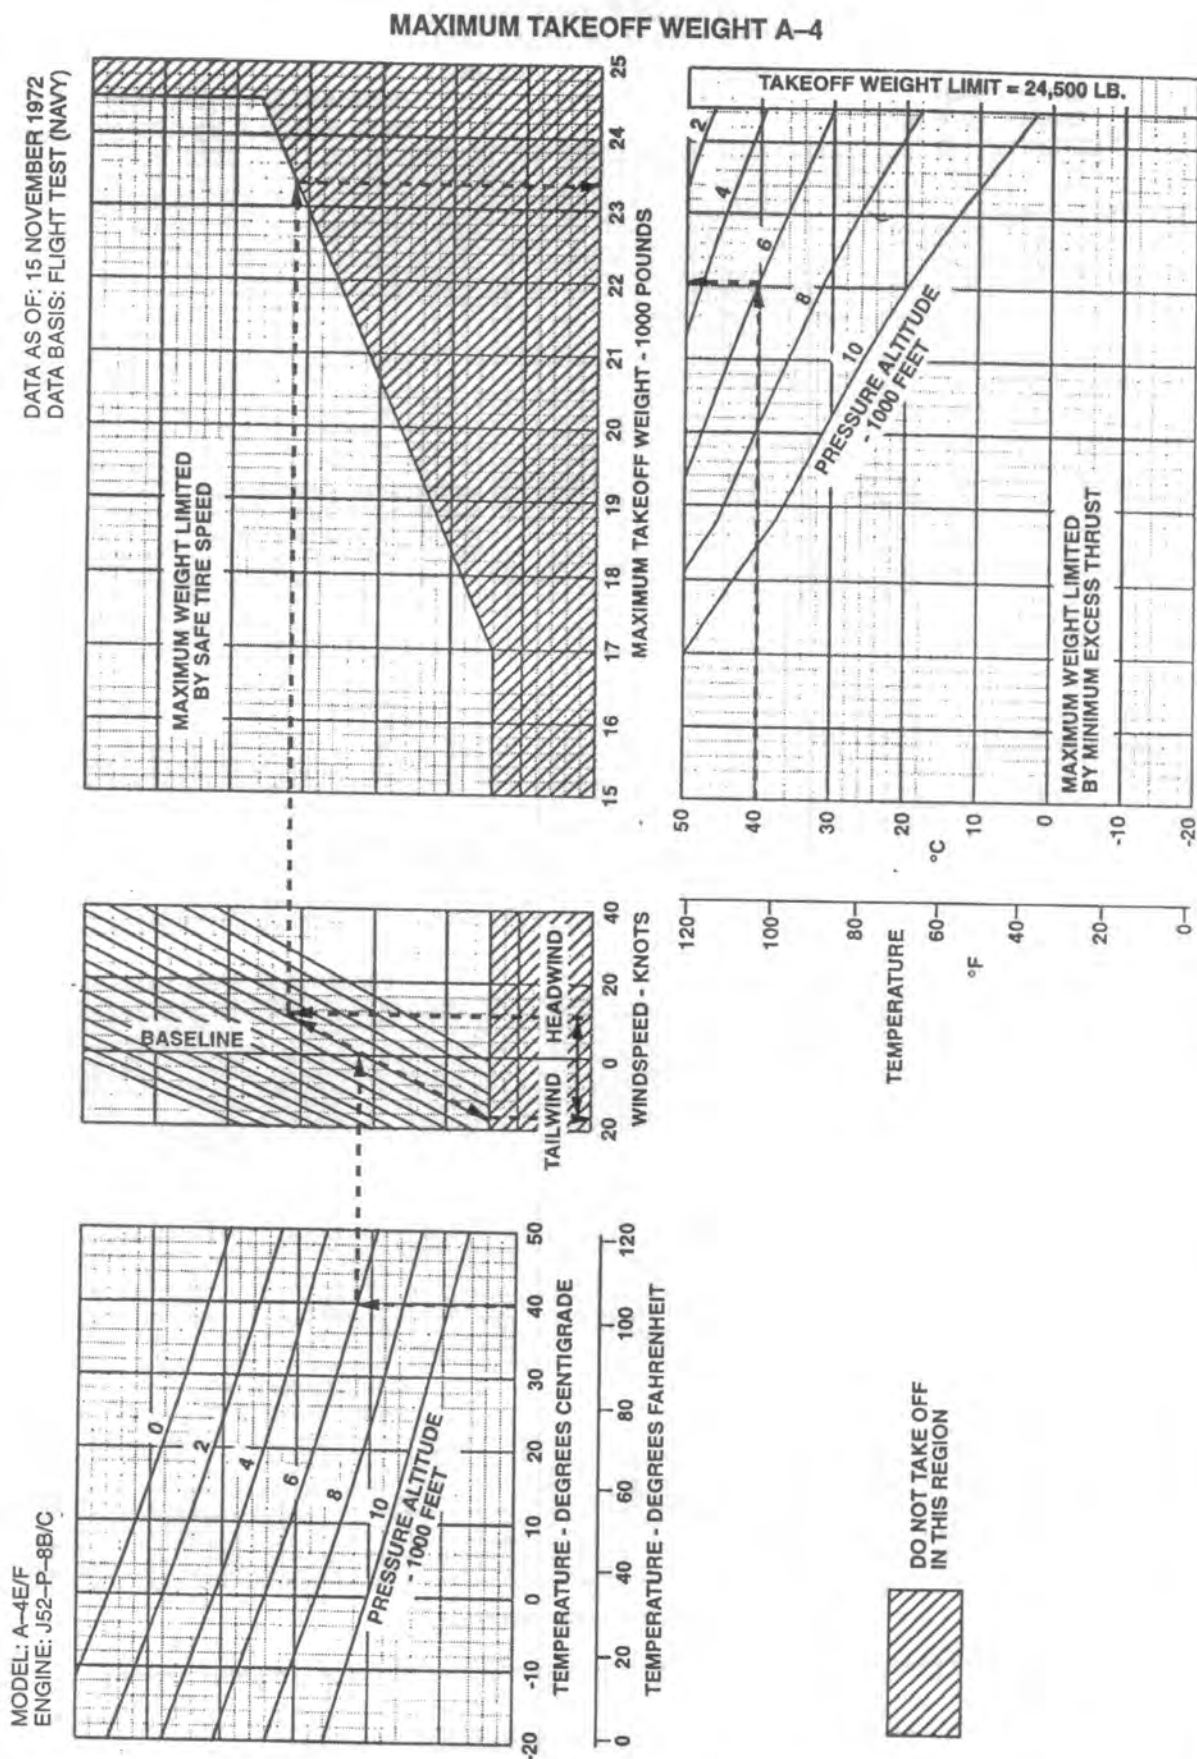

Figure 9-14 Maximum Takeoff Weight A-4
9.21 Observe that step (D) fell within the area labelled MAXIMUM TAKEOFF WEIGHT MAY BE EXCEEDED. To determine if this takeoff weight does exceed the maximum takeoff weight refer to Figure 9-14 at the given temperature, pressure altitude, and wind conditions. For this problem the maximum takeoff weight is 24,500 pounds. Since the actual weight, 20,000 pounds, is less than maximum this takeoff may be safely completed.
9.23 The maximum takeoff weight (Figure 9-14 and Figure 9-16) is given as a function of ambient air temperature, pressure altitude and wind condition. The data basis for these charts assumes that the landing gear is fully extended, takeoff is at airspeeds shown on the takeoff distance charts, the aircraft is climbing out with MILITARY thrust with the assist of ground effect, multiple carriage stores are carried on wing stations, and the wing flaps are set at the half-flap position.
(For Figure 9-14)